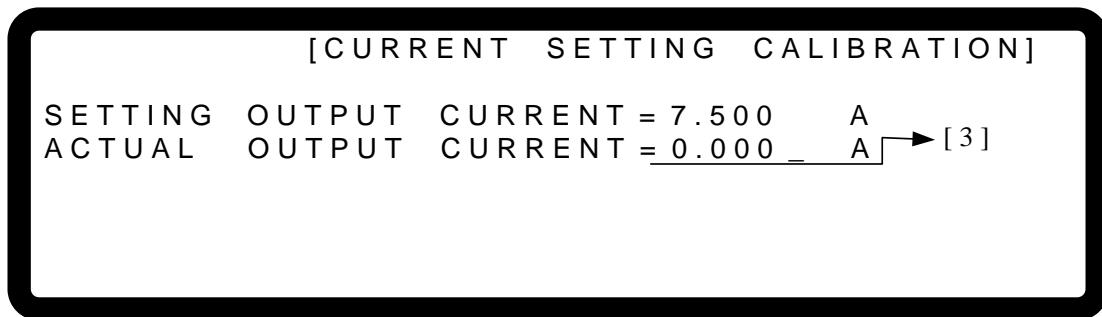

Figure 3-122
9. Press “” to do the 7.5A calibration. The system will set the output current to 7.500A automatically and the cursor will stop at position [3] as shown in Figure 3-122. Input the current read by the Current Shunt (DVM) and press “” to confirm.